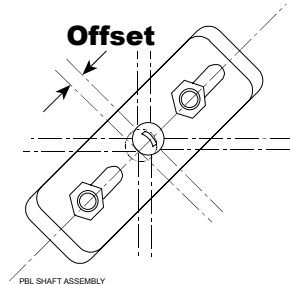

Figure 2-2
- a. Rotate the ball lift support shafts so that the slots in the adjustable plates are in line with the direction of offset between the support brackets on the kickback plates (see Figure 2-2).